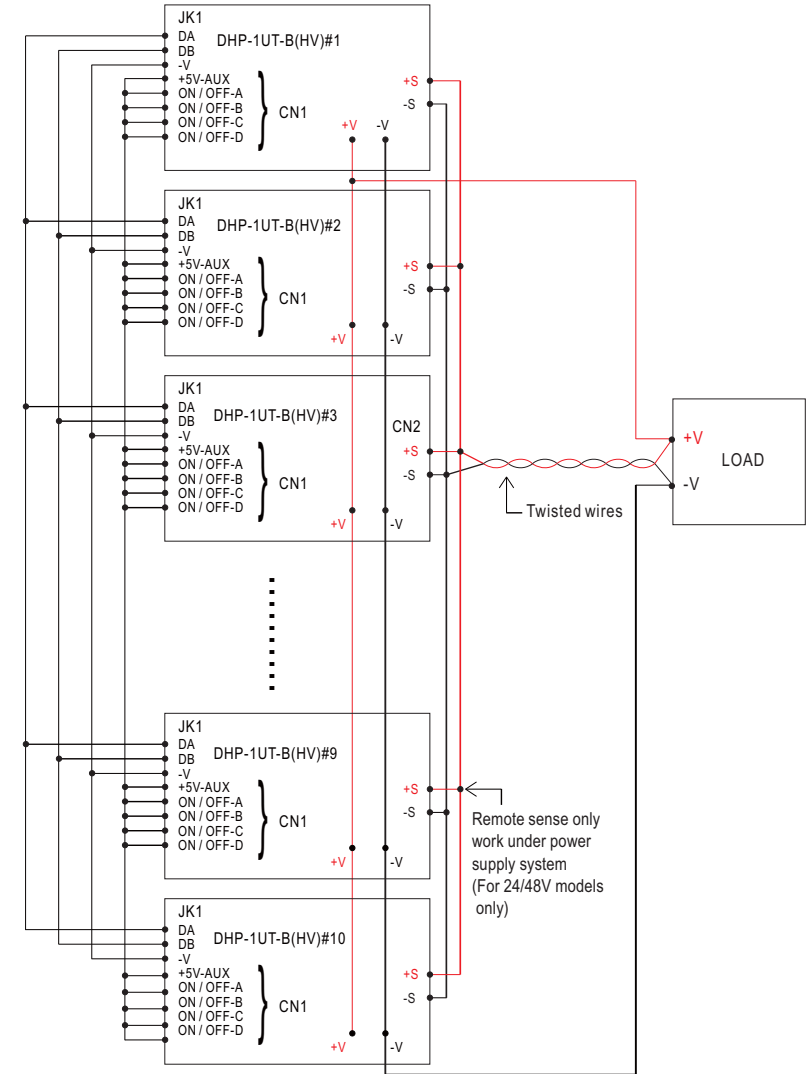

Figure 5-10
- Configure rack shelf units in parallel before connecting to the load. Do not connect rack shelf units to the load separately. Refer to Figure 5-10.
- Control singles of DA, DB and -V should also be connected in parallel. (Refer to Figure 5-10).
- Use twisted wires for the wiring of +S and -S, the twisted wires should not touch the load wires to avoid interference. Refer to Figure 5-10.